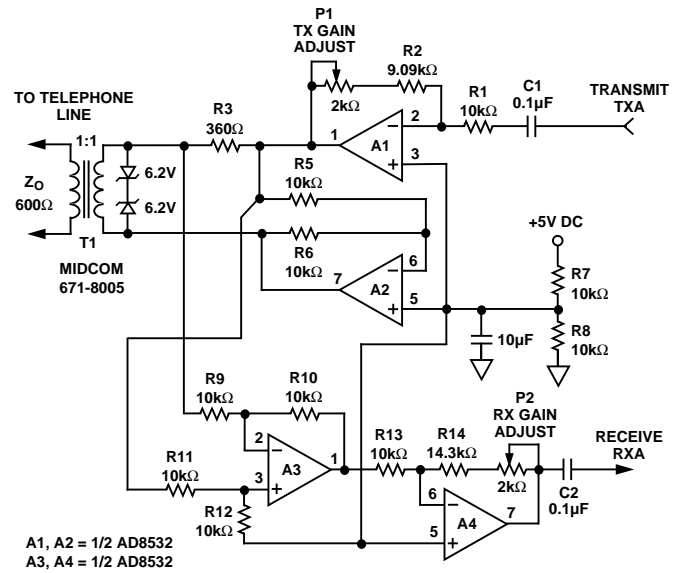

Figure 42. A Single-Supply Direct Access Arrangement for Modems
Figure 42 illustrates a +5 V only transmit/receive telephone line interface for 600 Ω transmission systems. It allow full duplex transmission of signals on a transformer coupled 600 Ω line in a differential manner. Amplifier A1 provides gain which can be adjusted to meet the modem output drive requirements. Both A1 and A2 are configured so as to apply the largest possible signal on a single supply to the transformer. Because of the AD8531/AD8532/AD8534's high output current drive and low dropout voltage, the largest signal available on a single +5 V supply is approximately 4.5 V p-p into a 600 Ω transmission system. Amplifier A3 is configured as a difference amplifier for two reasons: (1) It prevents the transmit signal from interfering with the receive signal, and (2) it extracts the receive signal from the transmission line for amplification by A4. A4's gain can be adjusted in the same manner as A1's to meet the modem's input signal requirements. Standard resistor values permit the use of SIP (Single In-line Package) format resistor arrays. Couple this with the AD8531/AD8532/AD8534's 8-pin SOIC or TSSOP footprint and this circuit offers a compact, cost-sensitive solution.